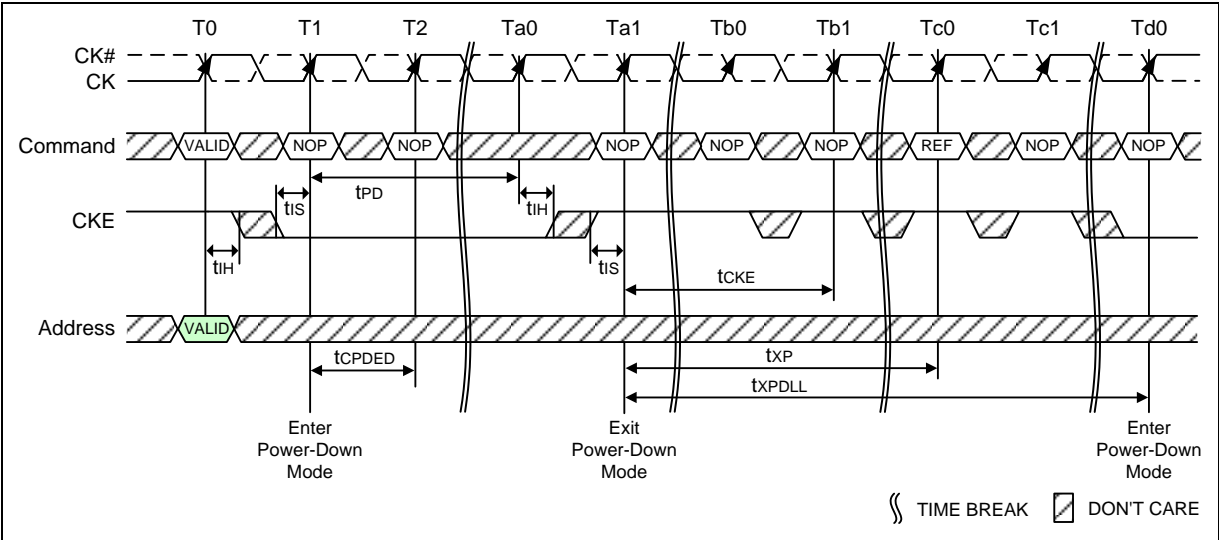

Figure 70 – Power-Down Entry/Exit Clarifications - Case 2
- 2) tXPDLL must be satisfied (referenced to the registration of PD Exit) before the next power-down can be entered. A detailed example of Case 2 is shown in Figure 70.